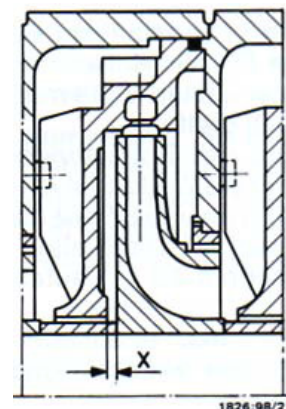

Figure 37 – Rotor position at start of measurements
The suction, discharge and stages casings are properly tightened by means of the tie bolts and the counter balance disc (602) mounted on the pressure body (107), by employing a flat joint (400.1) in perfect conditions. On sizes 125 and 150 the flat joint (400.1) is not utilized. Preliminarily touch the set onto to discharge end (pressure), then push it back towards the suction and check the "x" measure, as indicated in figure 37.